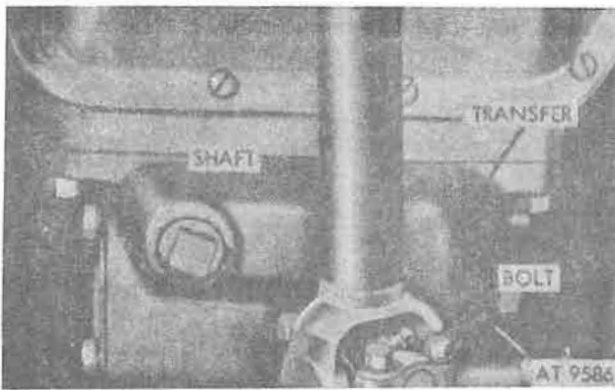

Figure 4-18. Front propeller shafts.
(10) Remove four bolts (both ends) securing front propeller shaft to transfer and differential (fig. 4-18).